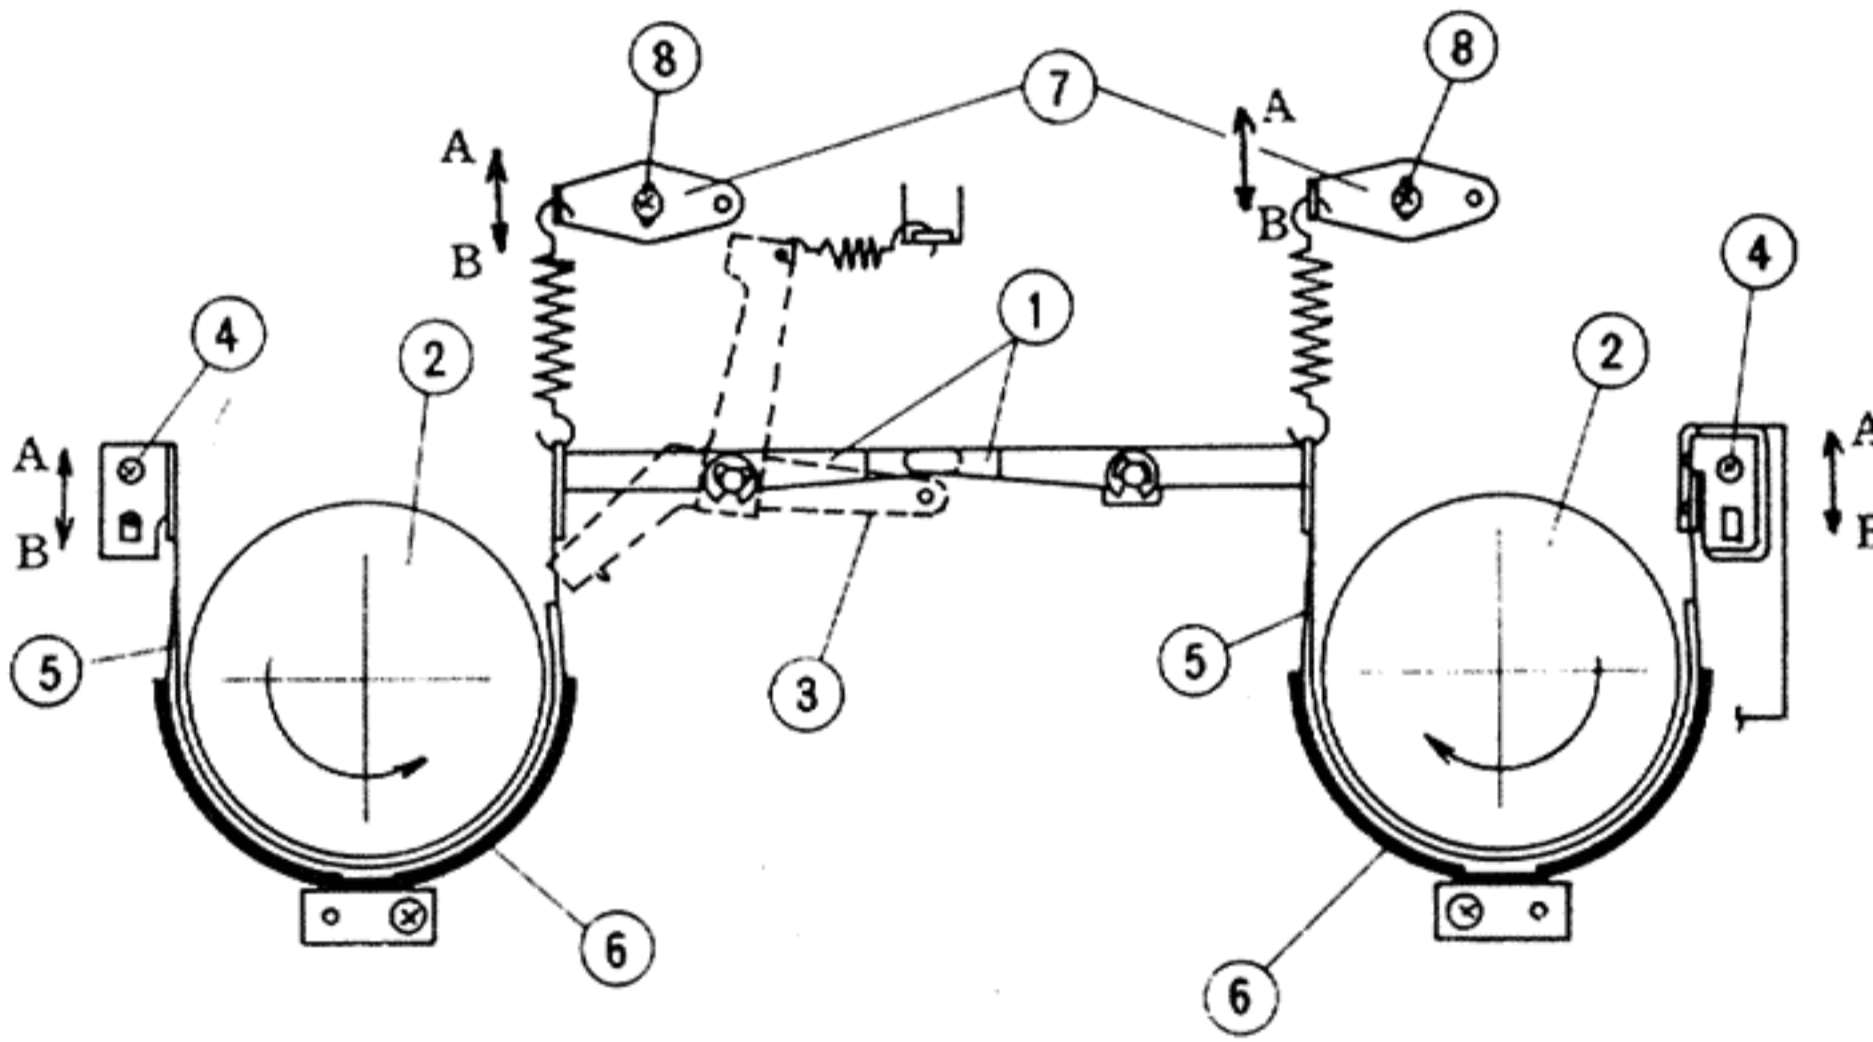
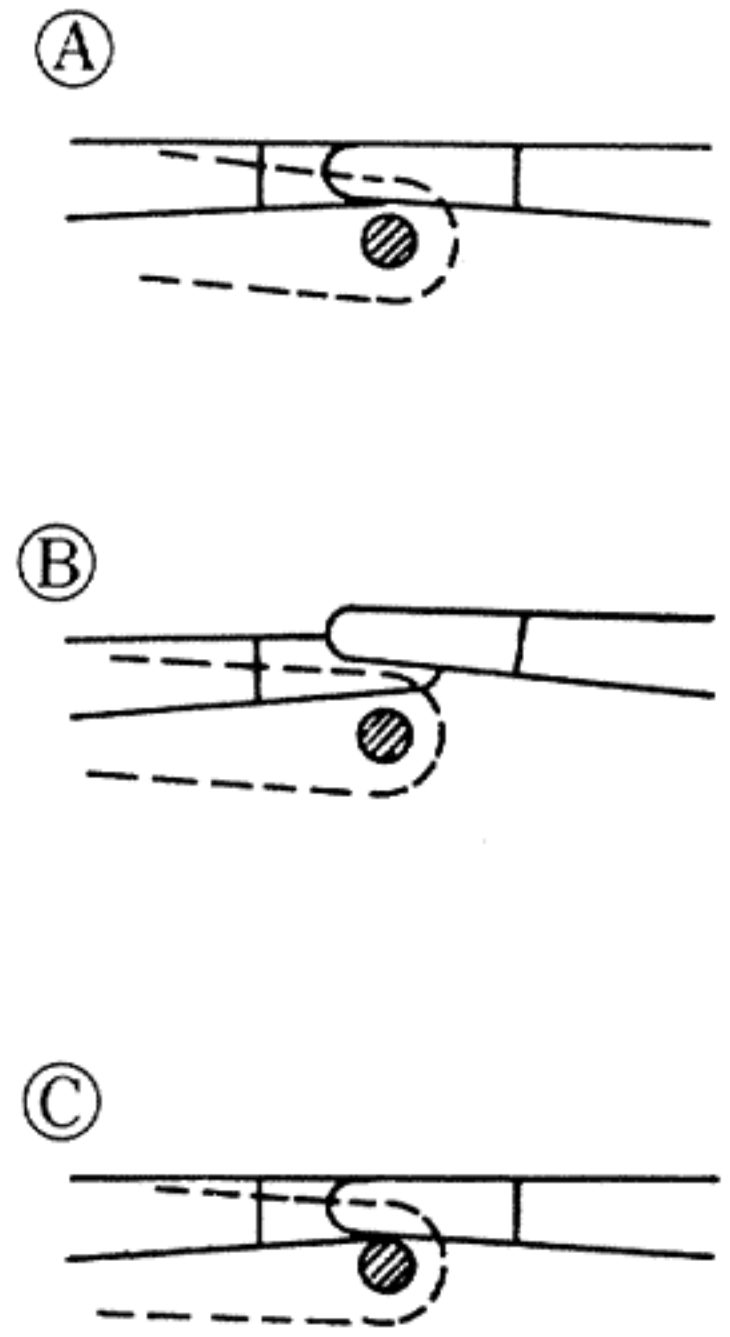

Fig. 21
Fig. 23
#### 5. Adjusting the brake and pinch roller elevation position (Fig. 21)
The condition shown in (B) is often caused when lever (1), etc., is bent. Bend the lever and repair as shown in (C). Next, loosen the two setscrews of brake drum (2) using a hex wrench (ISO M3) and adjust the position of the brake drum to that shown in (A) (Fig. 21). In some cases, adjustment to the condition shown in (A) can be done by bending the lever in the direction of the arrows.
- 2) When adjustment 1) is completed, adjust the spaces between the stud of lever ③ and the right and left brake arms ①. The spaces must be equal with each other as shown in Fig. 23 (A). Loosen screws ④ shown in Fig. 21. If the spaces are zero, move the brake liner, in the direction of arrow (A) in Fig. 21; if the spaces are excessive, move the liner in the direction of arrow (B).
Loosen screws ⑧ holding lever ⑦ shown in Fig. 21 and adjust. The torque is increased with levers ⑦ moved in the direction of arrow (A) in Fig. 21; the torque is decreased with levers ⑦ moved in the direction of arrow (B).